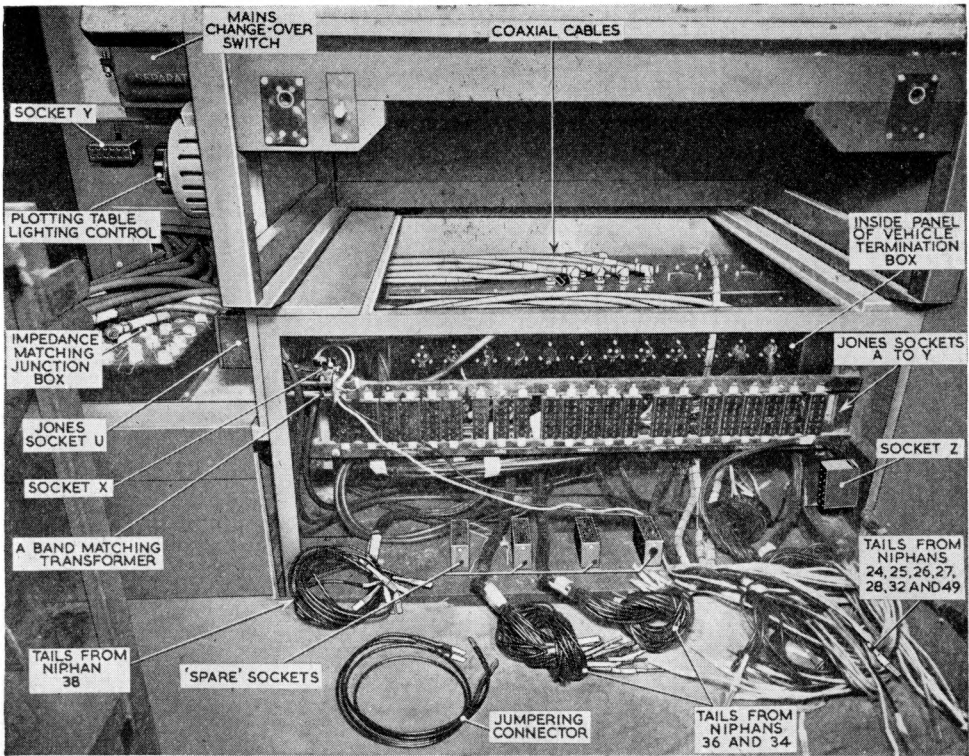

Fig. 40. Termination box
57. Place the impedance matching junction box on the raised platform to the right of console No. 1 (*fig. 40*) and connect the following cables :—